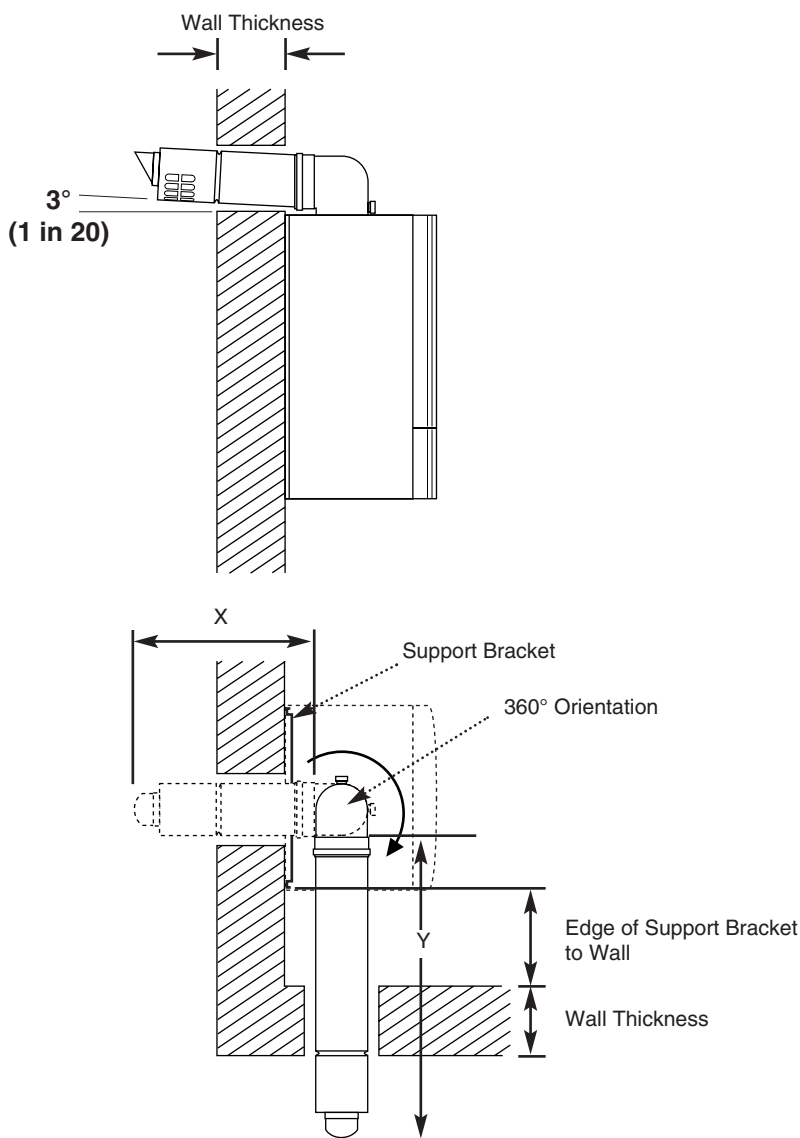
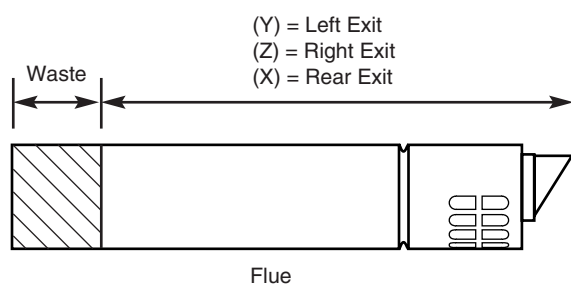

Fig. 21
Fig. 22
2. **For rear exit** - measure the wall thickness (Fig. 21) and to this dimension add 226mm. This dimension to be known as (X).
i.e. (X) = wall thickness + 226mm
3. Take the flue and mark off (X) from the terminal end as indicated in the diagram (Fig. 22).
4. **For left hand exit** - measure the distance from the edge of the support bracket to the inner face of the wall (Fig. 21) and to this dimension add the wall thickness + 293mm. This dimension to be known as (Y).
i.e. (Y) = support bracket to wall + wall thickness + 293mm
5. Take the flue and mark off (Y) from the terminal end as indicated (Fig. 22).
6. **For right hand exit** - measure the distance from the edge of the support bracket to the inner face of the wall and to this dimension add the wall thickness + 368mm. This dimension to be known as (Z).
i.e. (Z) = support bracket to wall + wall thickness + 368mm
7. Take the flue and mark off (Z) from the terminal end as indicated (Fig. 22).